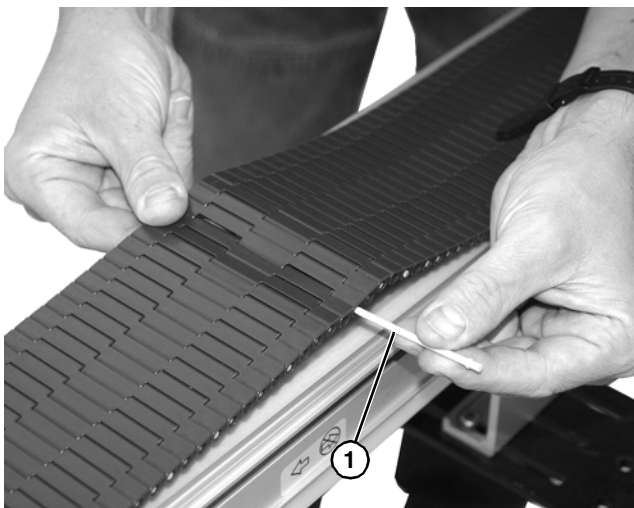

Figure 15
4. Splice the belt together by pushing the plastic rod (**Figure 15, item 1**) through the side hole on the rod retaining side of belt.